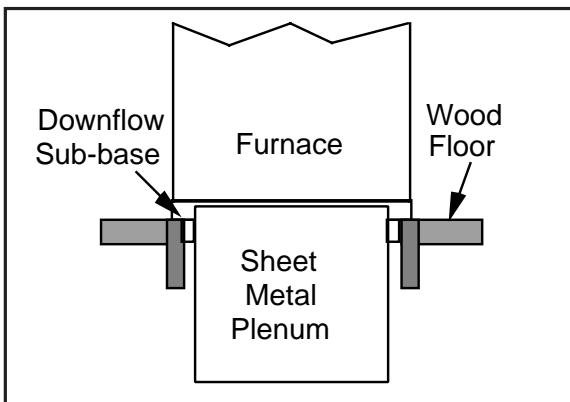

Figure 6. Furnace on a Wood Floor
2. Place the sub-base for combustible floors over the hole with its duct collar extended downward. Attach the supply air plenum to the base in a manner which will ensure 1" clearance to the flooring or other combustible material. Place furnace on the combustible base as shown in Figure 6.